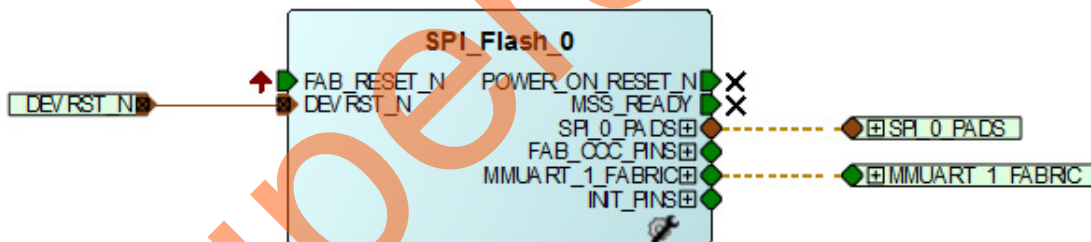

Figure 12 • SPI_Flash_top Design
7. Click **File > Save**. The SPI_Flash_top design is displayed as shown in Figure 12.